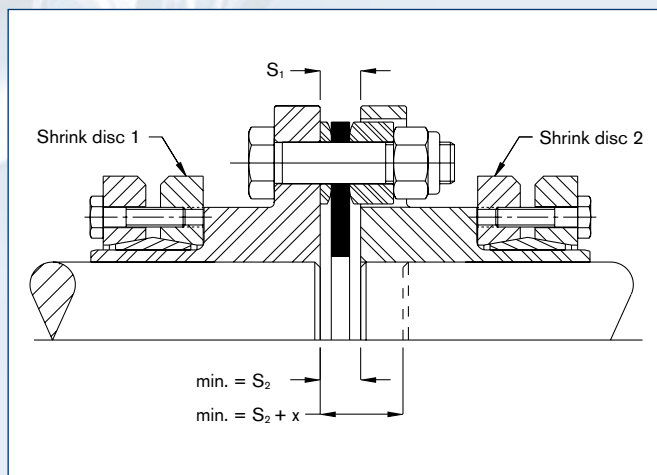

Fig. 3: Single flexing
- Place hubs on shafts. Move first hub flush with the end of the hub (Fig. 3 and Fig. 4 page 55). Tighten the respective coupling with the tightening torques T_A listed in the table. Use a torque wrench!
1. Bring components into the best visual alignment possible. Position the hubs axially so that the distance between shaft ends is within min. and max. dimensions S_1 (single flexing) and S_2 (double flexing) for standard couplings. See figures 3 and 4, page 55. For non-standard couplings, check corresponding coupling drawing.